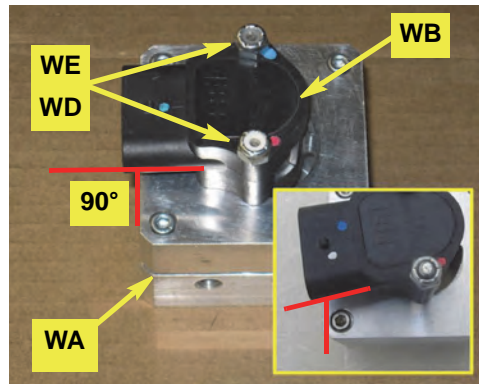

Figure 1a: Prepared WAS housing/connector
- Using the provided hardware **WE** (nuts) and **WD** (bolts - not visible), attach the WAS wire connector **WB** to the WAS housing **WA**. Install the bolts up through the bottom of the housing. For all except ZTX machines, set the WAS wire connector **WB** at 90° to any of WAS housing **WA**'s sides (Figure 1a). For ZTX machines set **WB** at slightly less than 90° (this will point **WB** slightly toward the front of the machine when installed - Figure 1a inset).
Facing the one-inch tabs of bracket **EJ** toward the right door, set the bracket so that (Figure 1a):
Using hardware **EK**, fasten the bracket to the cab floor (Figure 1a inset). Use a small level (not shown) to check the level of the bracket. Adjust accordingly.
Figure 1a with inset: ECU mounting bracket location/installed